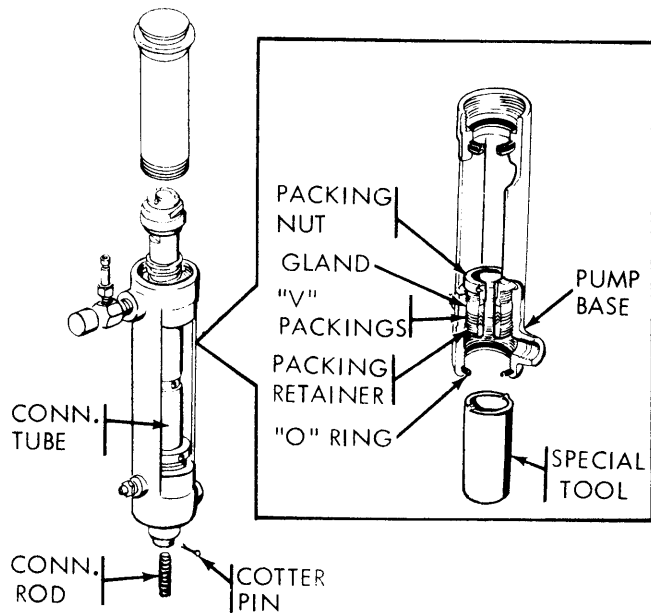

Fig. 6
(3) **THROAT PACKINGS:** Remove cotter pin and unscrew connecting rod from connecting tube. Remove air cylinder from base, loosen packing nut and carefully pull connecting tube from top of base. See Fig. 6. Remove packing retainer (special tool no. 168-019 available) from bottom of base. Remove packing nut and push bearing gland and packings from bottom of base. Clean and inspect all parts for damage or wear. Replace as necessary. Soak new leather packings in light oil till flexible. Push gland and packings one by one into base and hand tighten packing retainer. Install packing nut loosely, lubricate connecting tube and carefully slide it through packings and base. Draw up packing nut snugly, do not overtighten. Reassemble remaining parts, reverse from disassembly.